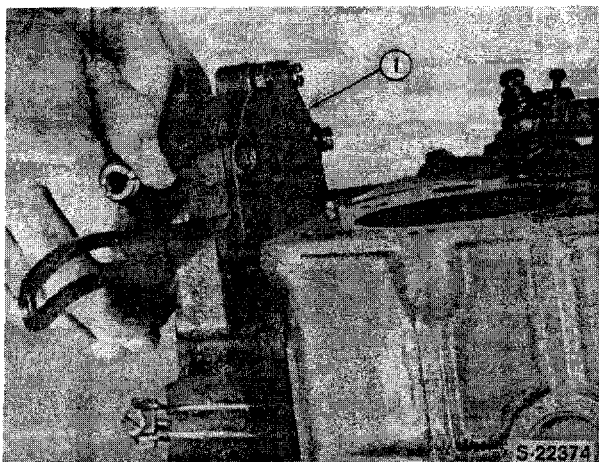

Figure 34
- Remove the water pump assembly, Figure 34.